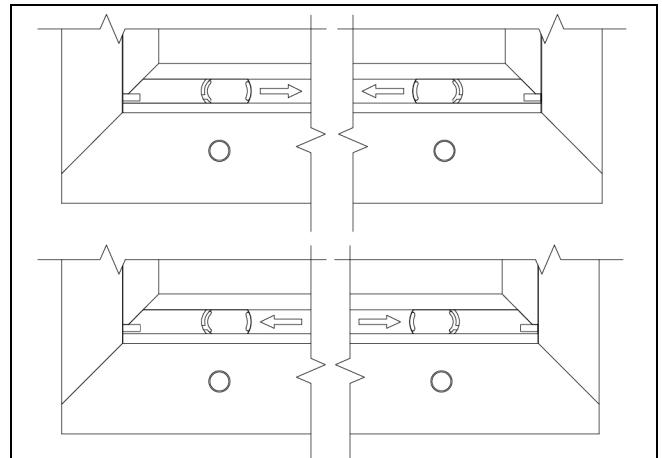

Figure 3 Interior View
1. To open or close combination panels, move both finger pulls toward the center of the insert. Lift or lower insert(s) to desired height and release finger pulls to lock. Figure 3.